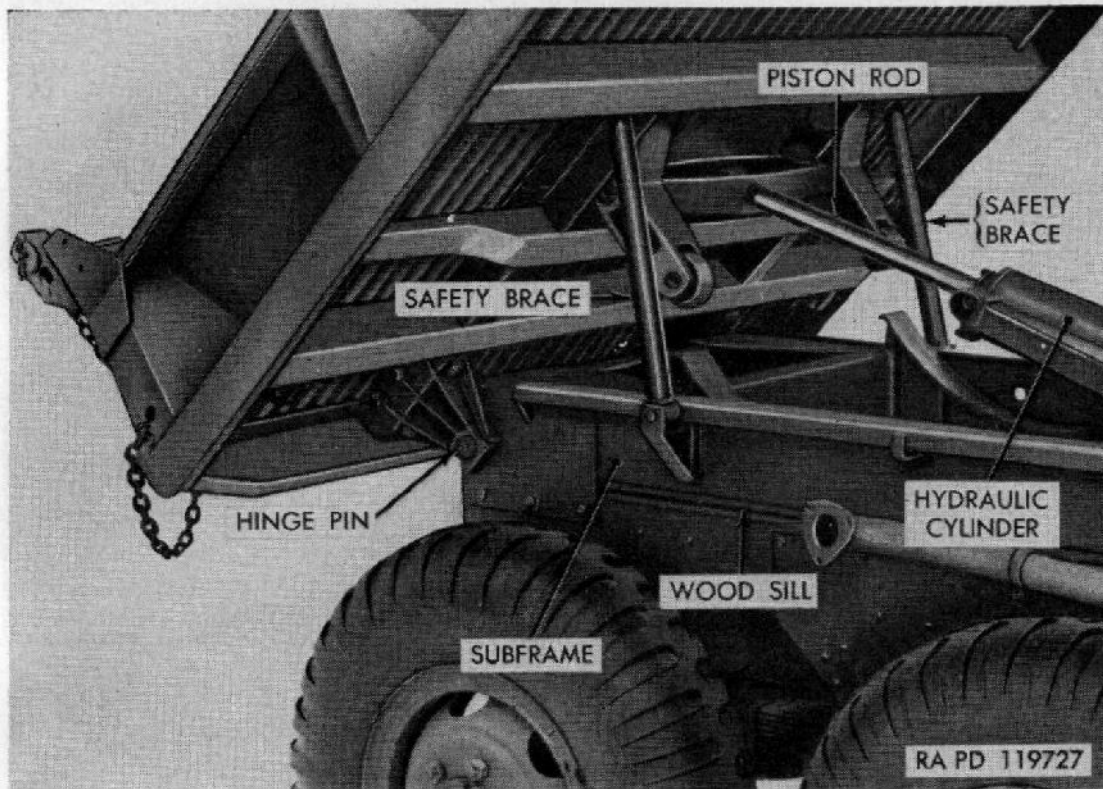

Figure 22. Safety braces.
- (4) *Safety braces.* Safety braces, attached to sides of subframe will always be used if body is to be left in raised position (fig. 22) for an extended time.